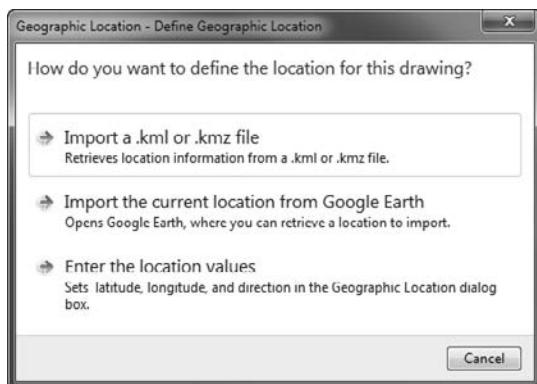

FIGURE 17.13 The Geographic Location – Define Geographic Location dialog box
- 6.** In the Sun & Location panel on the Render tab of the Ribbon, click the Set Location button. When the Geographic Location – Define Geographic Location dialog box appears, select Enter The Location Values as the method to define the location of the cabin drawing (see Figure 17.13).